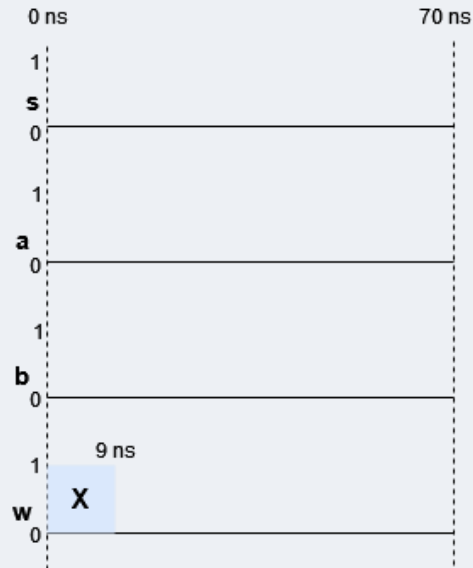

Figure 2.2
- **0 to 70 ns:** At first, the value of " s " is 0, so the pMOS will conduct and it will propagate 1 after 5 ns; also, the first nMOS propagates Z after 7 ns. So, T3 will conduct 0 to the output after 4 ns and T4 will propagate Z after 5 ns. So, the output will be 0 after 9 ns of being X. (fig. 2.2)